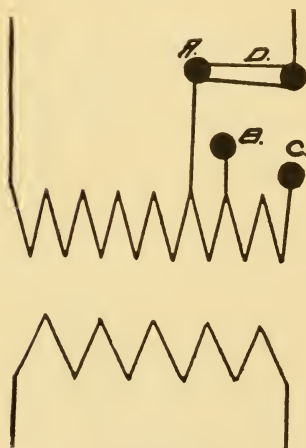

FIGURE 78
(12) This is the purpose and function of the transformer—the raising or lowering of voltage. (13) Let it be understood that all wattage (voltage  $\times$  amperage) taken from the secondary coil is subtracted from the primary one. Through magnetic induction the primary supplies the secondary with power, and that power, plus losses inherent in the transformer, is taken from the primary just as though the power were supplied by an actual electrical connection through metal. Step-down transformers increase amperage exactly in the proportion that voltage is decreased.
(14) Low voltage transformers, such as are used to supply a.c. light sources, consist of a laminated iron core and a primary and a secondary coil. The coil turns are proportional to the supply of voltage required to force the required amperage through the arc resistance.
(15) In all low voltage transformers there is an arrangement that stabilizes the arc in much the same manner as ballast resistance does. (16) Such transformers are usually supplied with various leads connecting with switch contacts as shown in Fig. 78. Each of these leads connects to the primary coil at different points, so that by manipulating the switch or